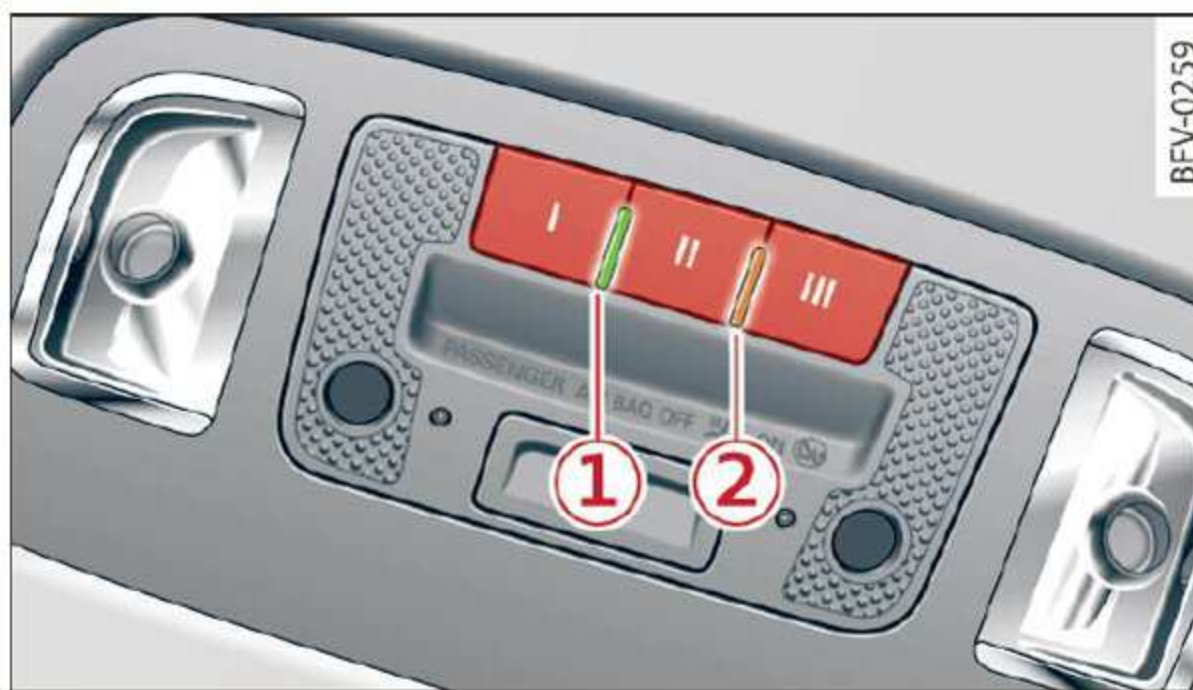

Fig. 25 Control panel above the interior rearview mirror
2. Press both of the outer buttons on the control unit ⇒ *page 30, fig. 25* until the yellow LED ② turns off and the green LED ① blinks. This procedure clears the standard codes that were set at the factory and does **not** need to be repeated again to program the other buttons.
4. Wait until the yellow LED ② blinks. The programming mode is active for five minutes.
- ▶ Watch the green LED ① ⇒ *page 30, fig. 25*. If the green LED blinks quickly, the system (such as a garage door) has a rolling code.